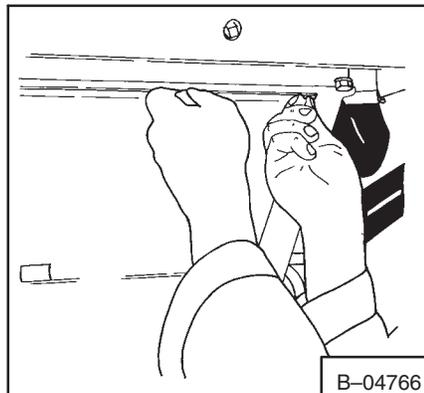

Fig. 7B-62 Removing Panel
3. Remove the bolts holding the muffler on (Fig. 7B-61).